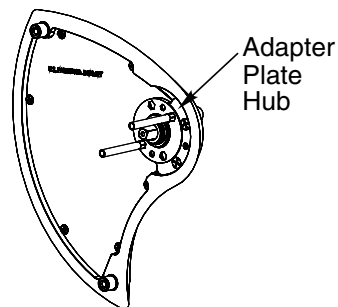

Figure 15
5. Thread adapter plate hub into lever and fully tighten. (Figure 15)